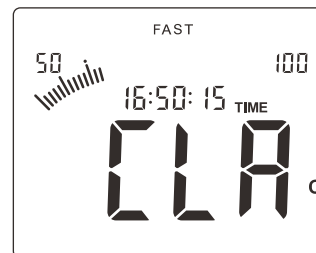

Figure 14
- Press down the **A/C CLEAR** key until the LCD screen displays the symbol CLR, then all recorded data will be deleted, LCD displays as in figure 14: